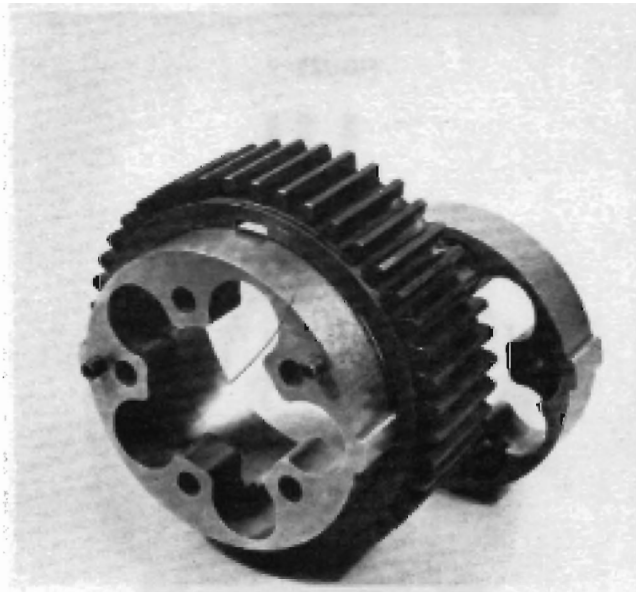

FIGURE 4
3. Remove the ten (10) differential pinions and the cylindrical spring from the differential bodies.
4. Press the two (2) differential bodies from the differential ring gear.
The right and left differential bodies are identical with roll pins located next to two (2) bolt holes. Figure 4.